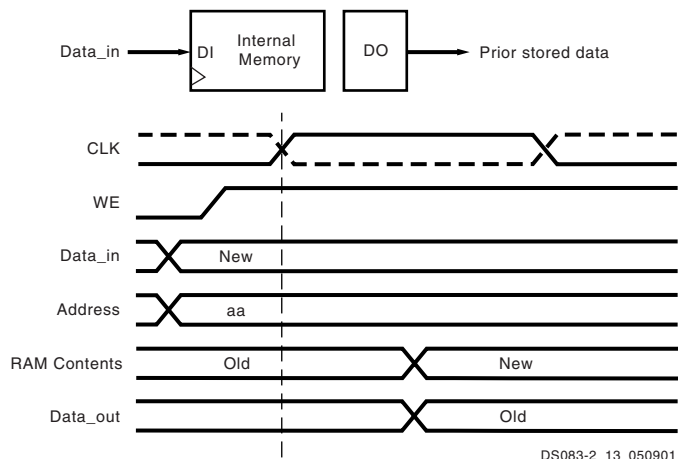

Figure 38: READ\_FIRST Mode
The READ\_FIRST option is a read-before-write mode. The same clock edge that writes data input (DI) into the memory also transfers the prior content of the memory cell addressed into the data output registers DO, as shown in Figure 38.